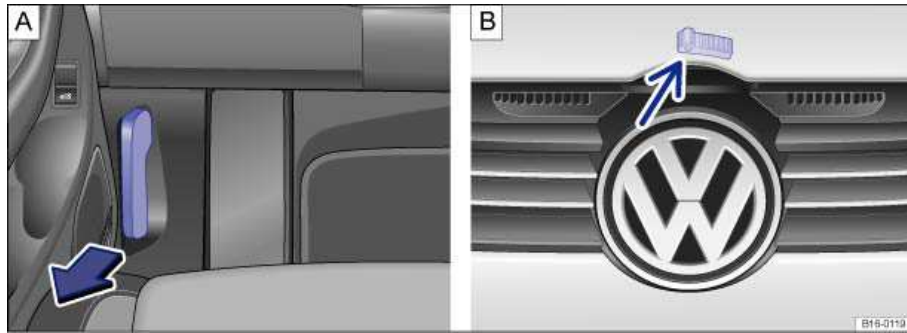

Fig. 137 A: In the footwell on the driver side: Inside engine hood release lever. B: Above the radiator grille: Outside engine hood release.
- Open the driver door and pull the inside hood release lever in the direction of the arrow ⇒ fig. 137